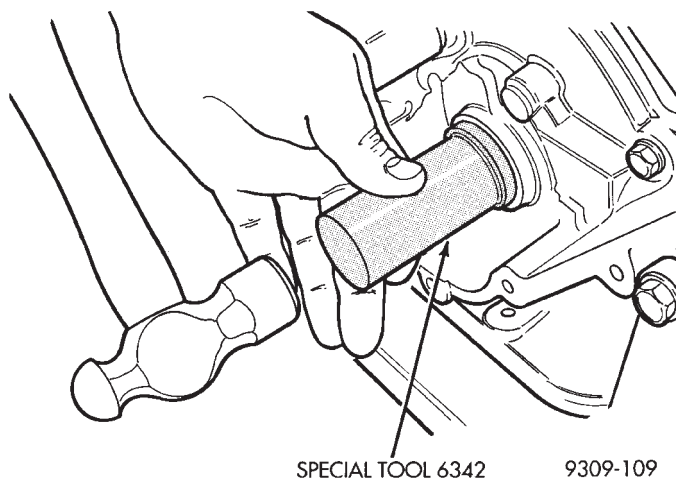

Fig. 10 Installing Crankshaft Oil Seal with Special Tool 6342
(5) Shaft seal lip surface must be free of varnish, dirt or nicks. Polish with 400 grit paper if necessary.
(6) Install crankshaft seals using Special Tool 6342 (Fig. 10).